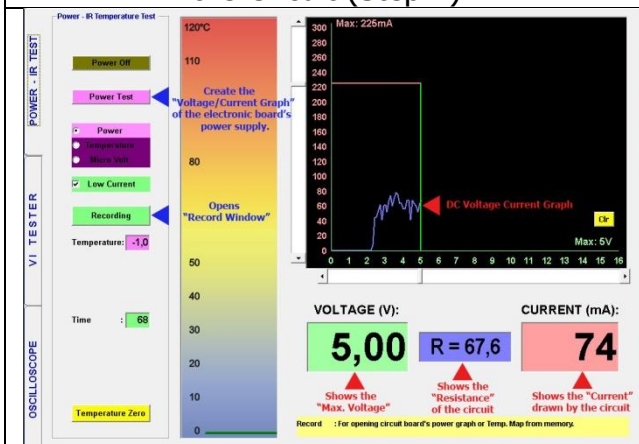

Figure 20: Generating the DC VI Graph (Step 3)
3. The "Power Test" Button is clicked to energize the electronic circuit board. The "DC Voltage - Current Graph" is generated from "0 Volt to maximum Voltage in 100 mV steps. (Figure 20)